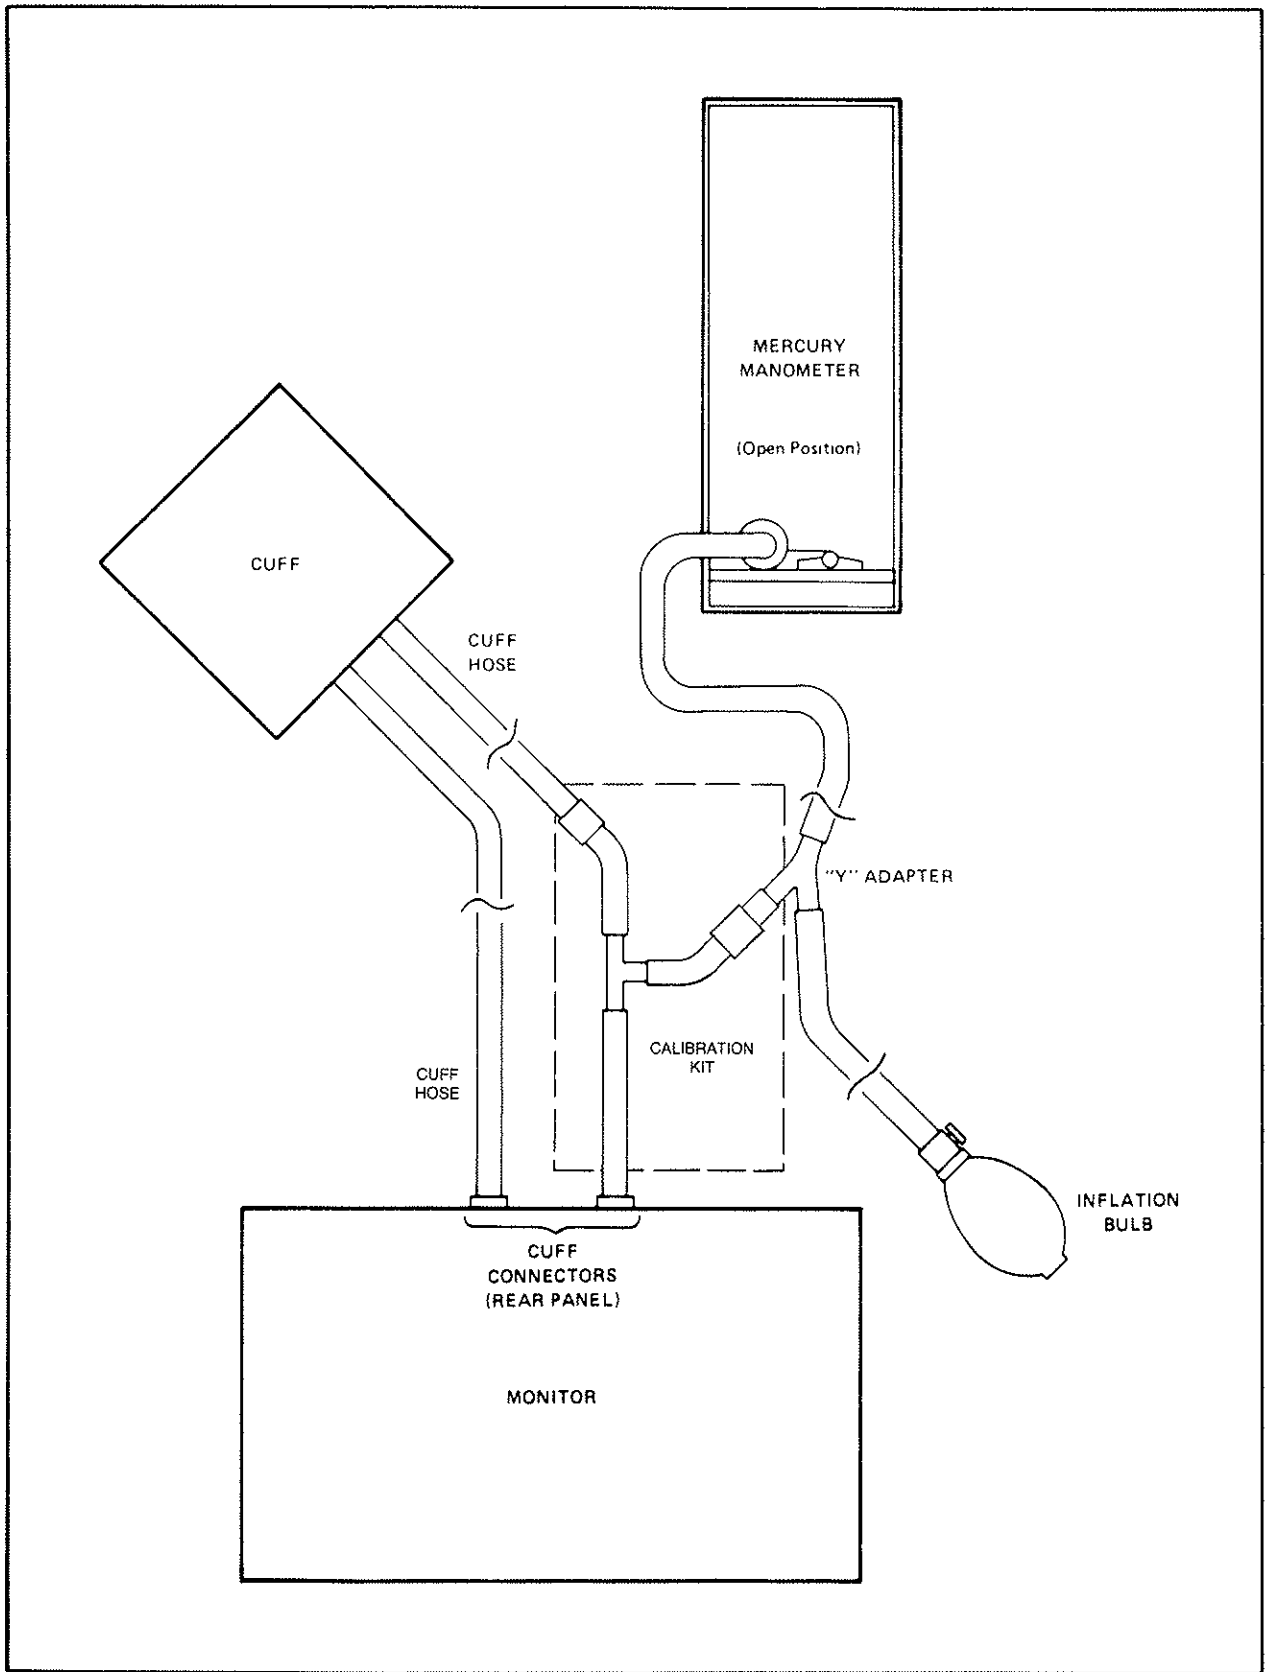

Figure 9-1 Calibration Check Set-up
2. Connect a mercury manometer to the monitor using the parts supplied with the calibration kit as shown in Figure 9-1.